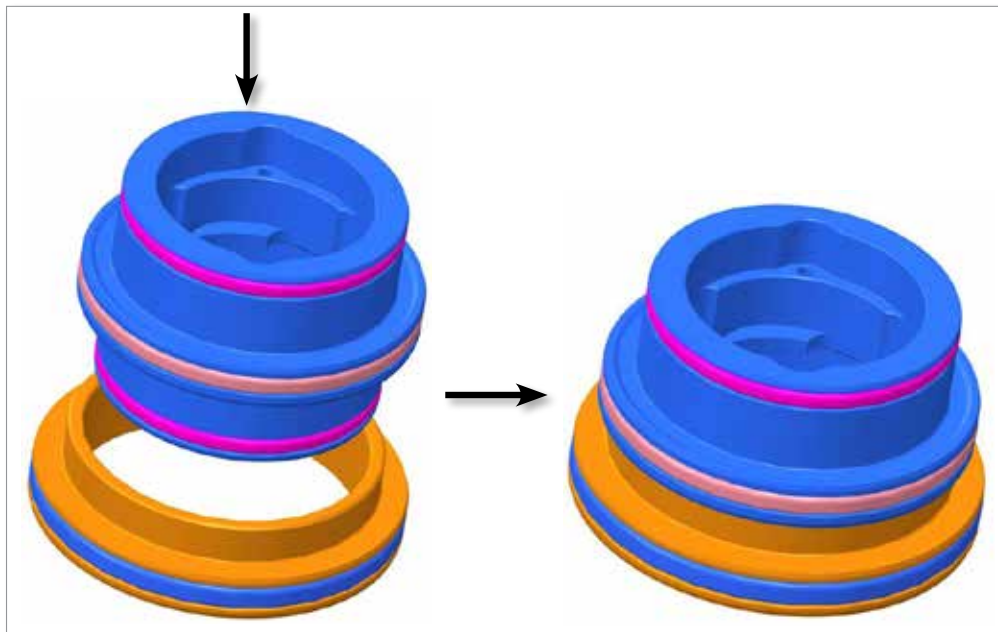

Figure 11-10 Install piston top onto piston bottom
9. Install the piston top onto the piston bottom. See Figure 11-10.